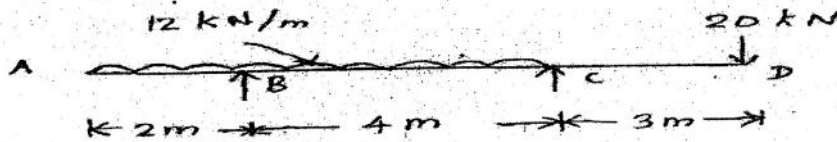

Figure-2
5. Draw the shear force and bending moment diagram for the beam given in figure-2.